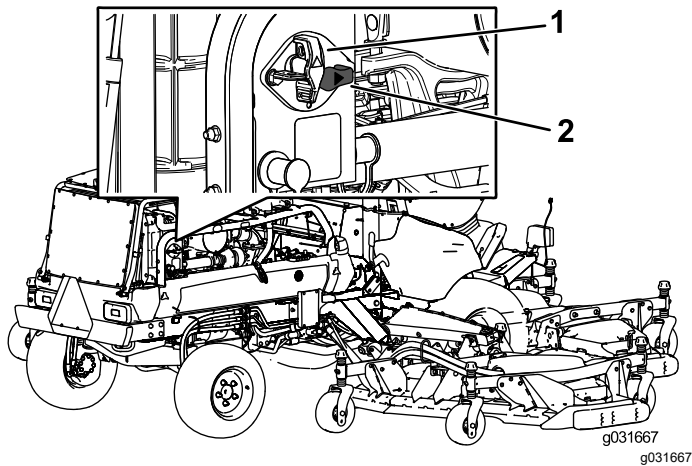

Figure 43
- To energize the machine electrically, rotate the battery-disconnect switch clockwise to the ON position (Figure 43).
- To de-energize the machine electrically, rotate the battery-disconnect switch counterclockwise to the OFF position (Figure 43).